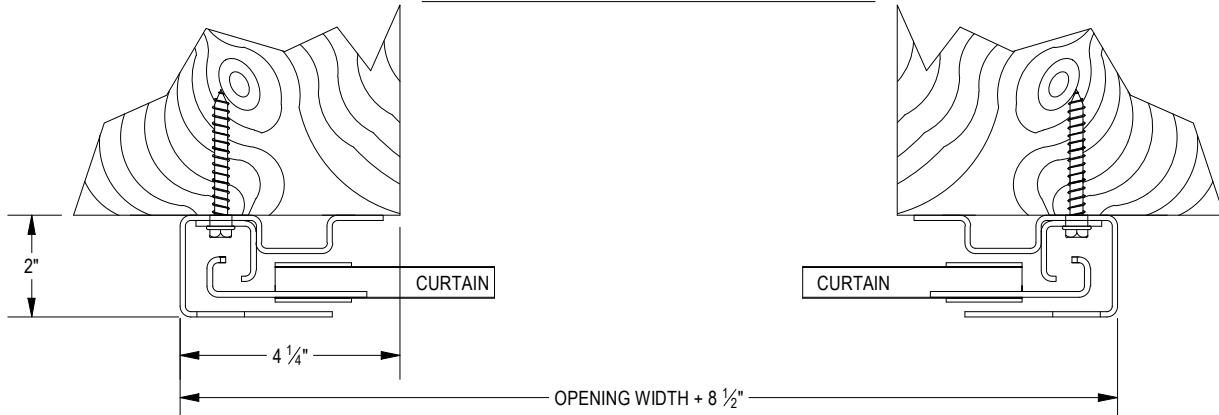

FIGURE 9: WOOD JAMBS
- **WOOD JAMBS:** $\frac{3}{8}$ " X 3". LAG BOLTS at inside of guide. FBC#21450/DWG-T1017. See Page 9 Figure 9.